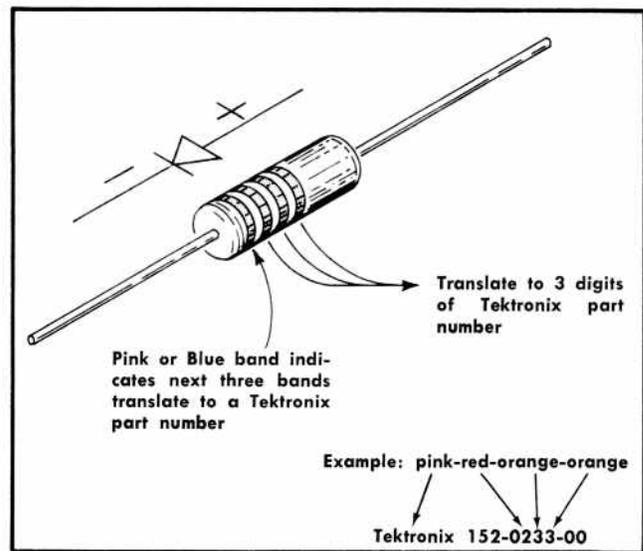
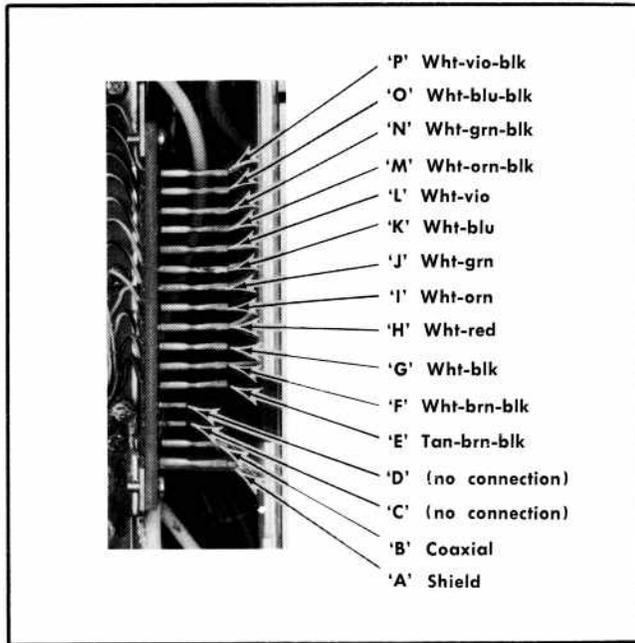

Fig. 4-2. Diode polarity for glass diodes.
Fig. 4-6. Wire and cable color code to the honeycomb pin connectors.
Fig. 4-2 identifies the polarity of the glass diode types used in this instrument.
5. Insure that none of the terminals and tie points are shorted or grounded. Reconnect any cables or wires that may be disconnected. Fig. 4-6 illustrates wiring color code. Apply power if desired. The ground-wire on the DISPERSION RANGE switch must be grounded for proper operation of the instrument. Fig. 4-2 illustrates the component layout and circuit layout on the honeycomb chassis.